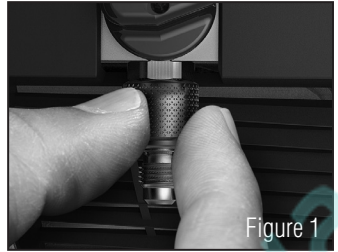

Figure 1
- Use a 5/8" socket or wrench to loosen suction port (Figure 1).